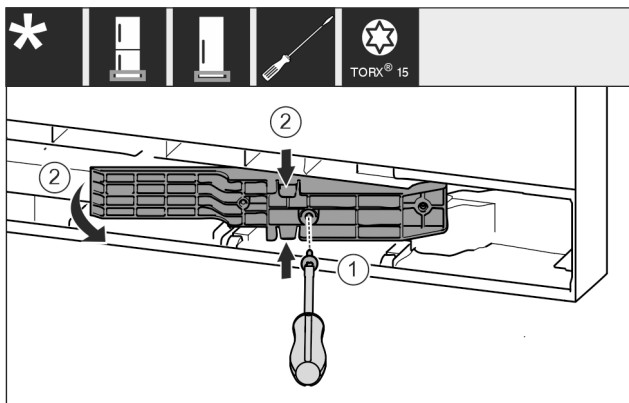

Fig. 18 \*
- ▶ Loosen the screws with the T15 screwdriver. Fig. 18 (1)\*
- ▶ Pull out the adapter. Fig. 18 (2)\*